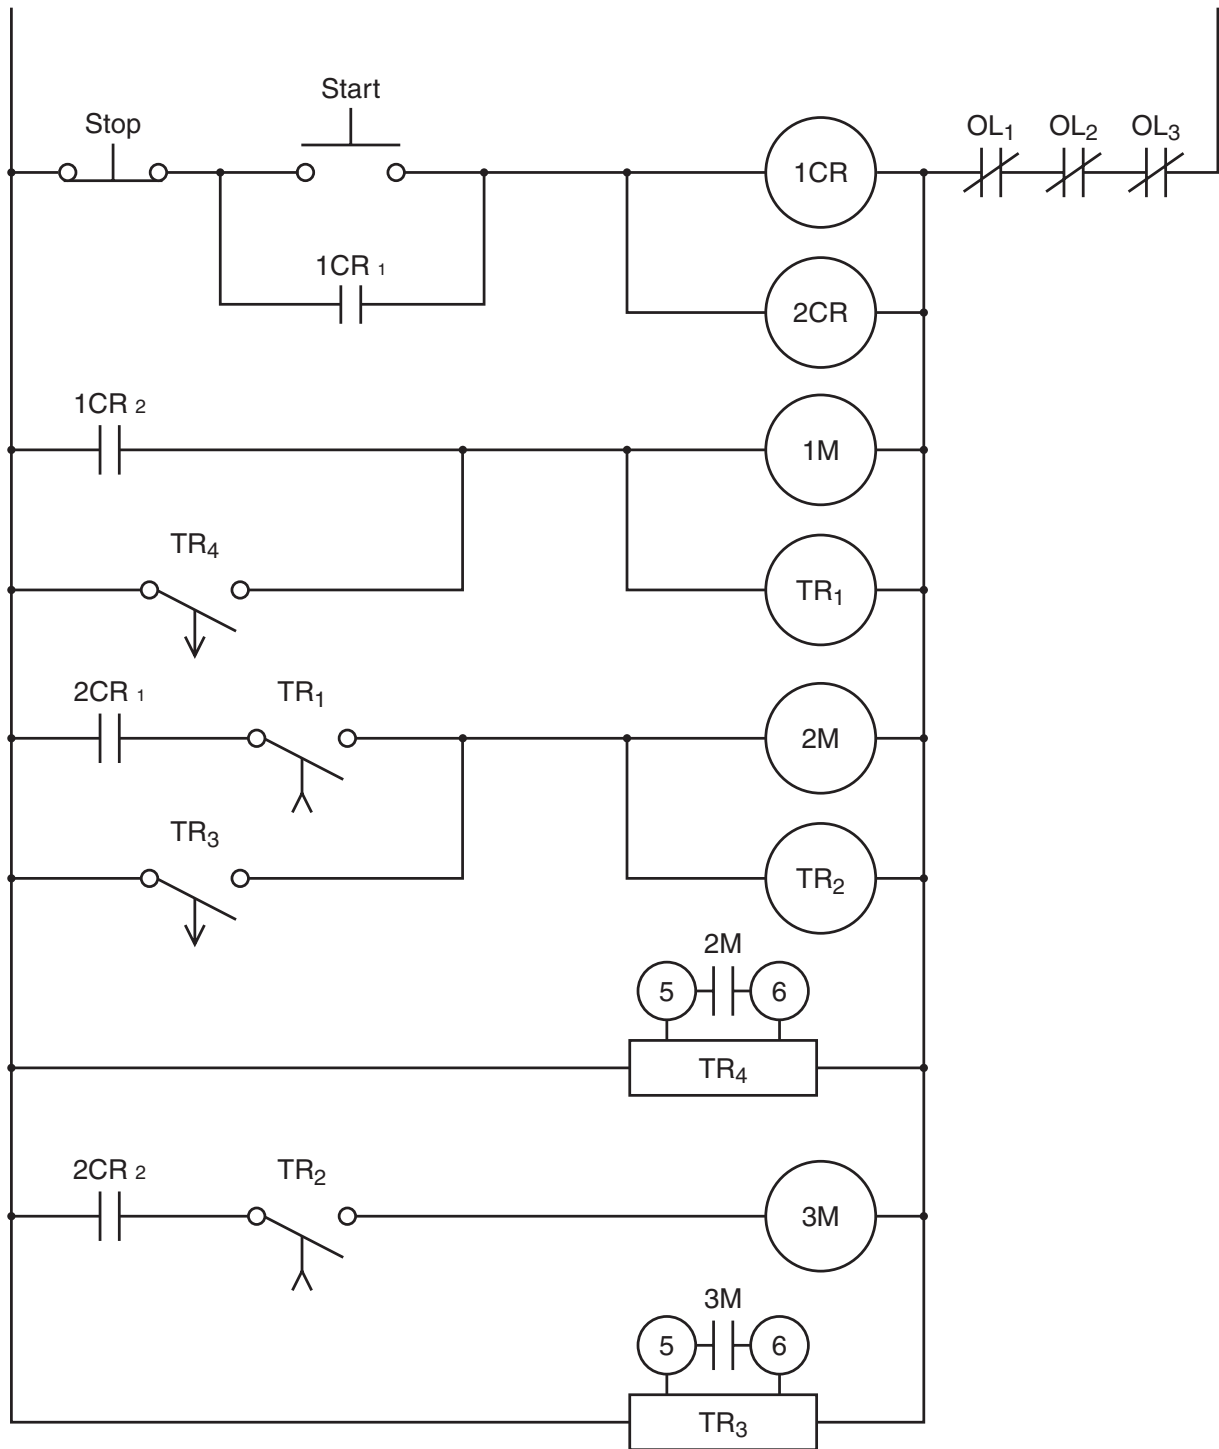

Figure 35-7 Changing pneumatic timers for electronic timers.
Timers TR_1 and TR_2 are on-delay timers and do not require an adjustment in the circuit logic to operate. Timers TR_3 and TR_4 , however, are off-delay timers and do require changing the circuit. The coils must be connected to power at all times. Assuming the use of a Dayton timer model 6A855, power would connect to pins 2 and 10. Starter 3M will be used to control the action of timer TR_3 by connecting a 3M normally open auxiliary contact to pins 5 and 6 of timer TR_3 (Figure 35-7). Starter 2M will control the action of timer TR_4 by connecting a 2M normally open auxiliary contact to pins 5 and 6 of that timer. The circuit is now complete and ready for connection in the laboratory.
1. Using the circuit shown in Figure 35-7, place pin numbers beside the proper components. Circle the pin numbers to distinguish them from wire numbers.
Refer to the circuit in Figure 35-7 to answer the following questions. It is assumed that all timers are set for a delay of 3 seconds.